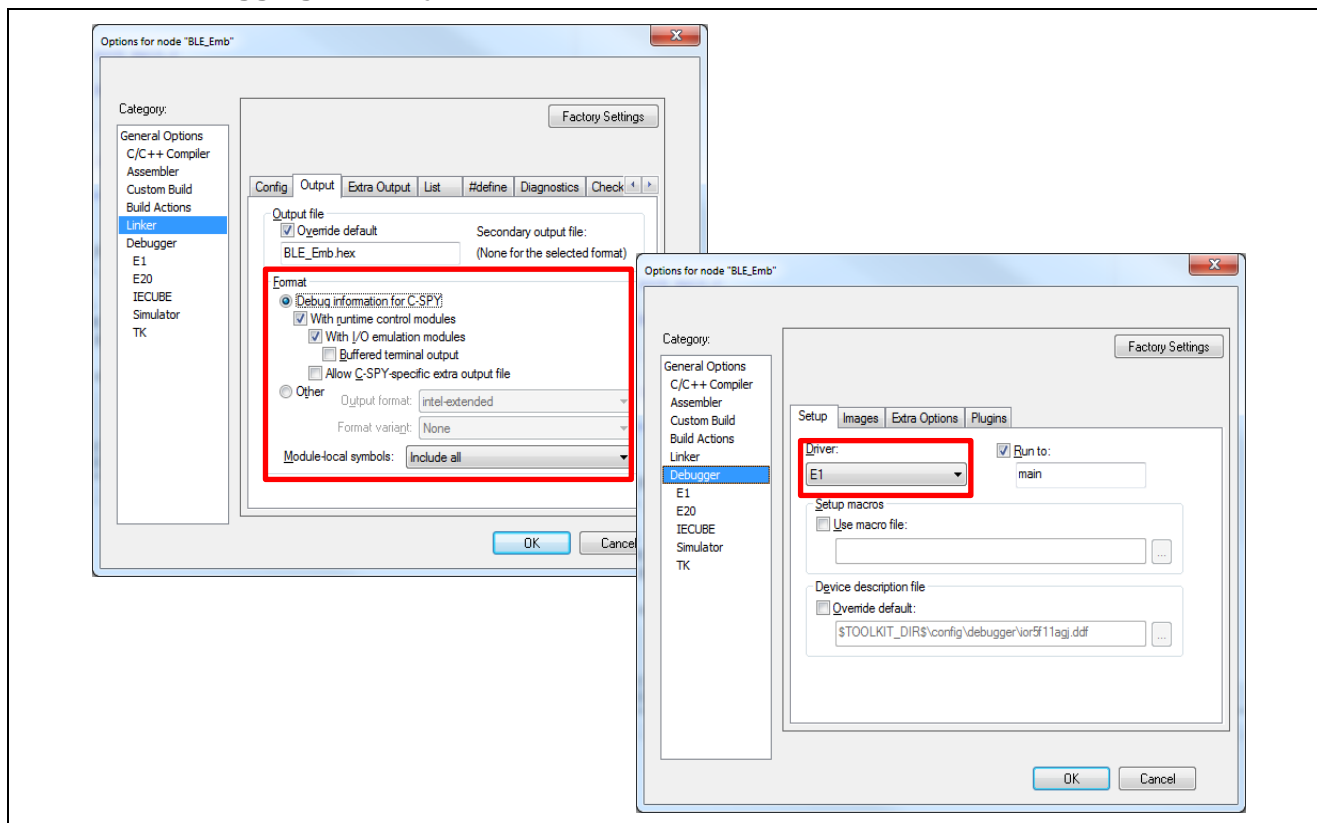

Figure 4 IAR EW for Synergy Output settings
Note: Before building the project for binary image, make sure to select **Other**, with intel-extended in the Linker option (see Figure 4). You automatically deselect this option when the Debug option is selected.
1. In the **Options for node BLE_Emb** screen, under the **Linker** category select the **Output** tab (see Figure 4).